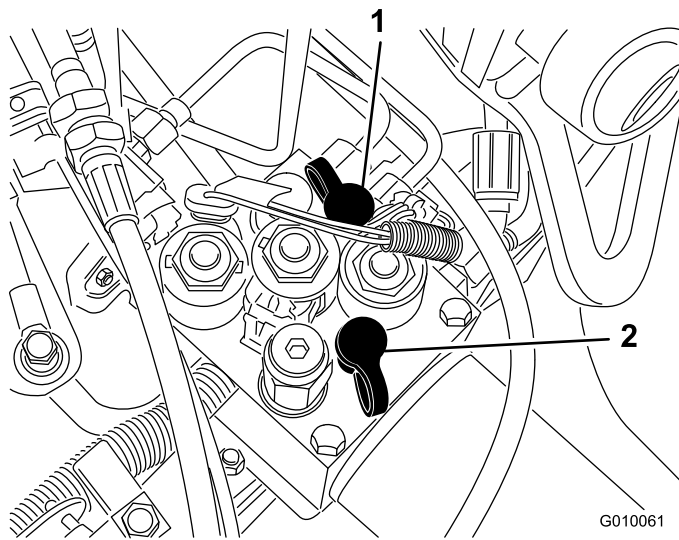

Figure 60
- Test Port G 2 (Figure 60) is used to assist in trouble shooting the traction charge circuit.
- Test Port G 1 (Figure 60) is used to assist in troubleshooting the lift circuit pressure.